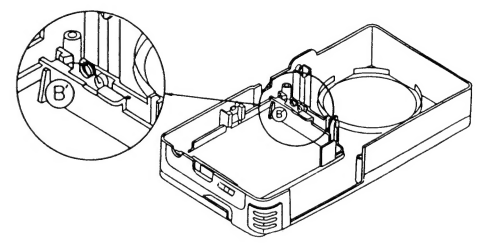

Fig. 5
3. Close the cassette lid and then insert spring end B in hole B in the cassette lid as shown in Fig. 5.